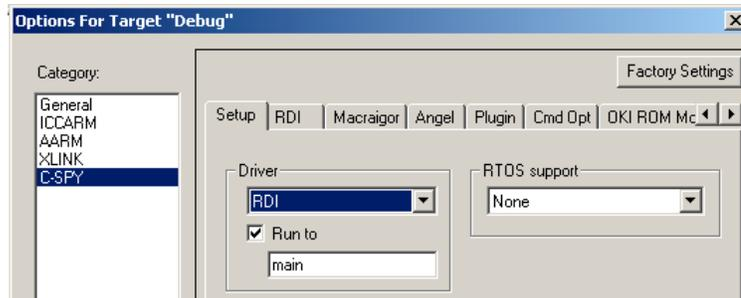

FIGURE 4 Selecting the driver type for C-Spy.
1. Choose Options from the Project menu. The Options for Target dialog box appears. Select the C-SPY category. In the Setup tab, choose RDI as the driver, as in Figure 4.